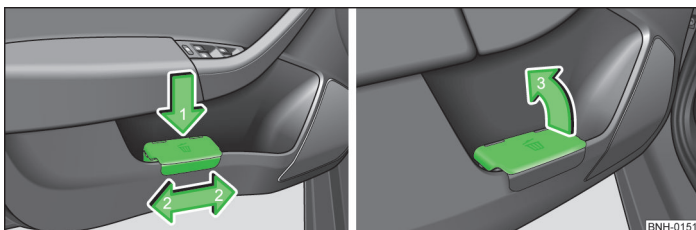

Fig. 3 Waste container / open waste container
- Push the waste container to the back in the direction of arrow 1 » Fig. 3.
- Remove the waste container in the opposite direction to the arrow 1 » Fig. 3.
- Open the waste container in the direction of the arrow 3 » Fig. 3.